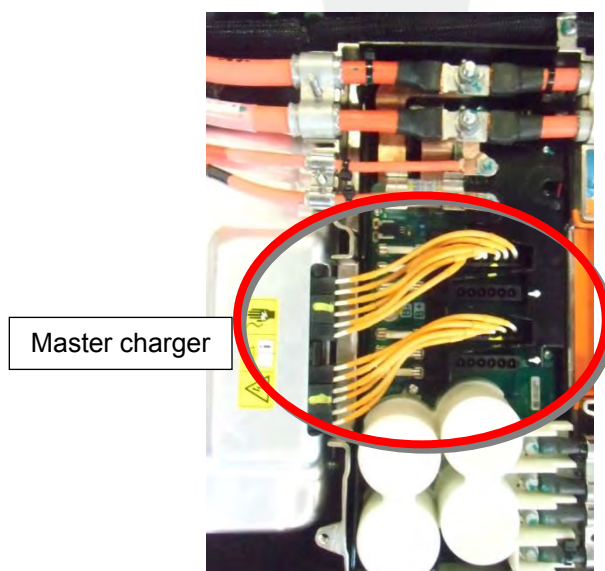

Figure 6
8. Remove and discard the 2 harnesses between the connections inside the HVJB that lead to the master charger (Figure 6).
13. Use a pair of pliers to release the locking ring that secures the inboard side of the main coolant hose (Figure 6). Release the inboard restrictor from the main coolant hose, and immediately tilt the open edge of the temporary coolant hose upwards to reduce spilling. Place the cap from the new charger over the restrictor on the main coolant hose.